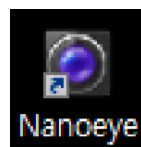

Figure 2. Nanoeye software icon
2. Launch the **Nanoeye** software icon (Figure 2) on the desktop to launch the program